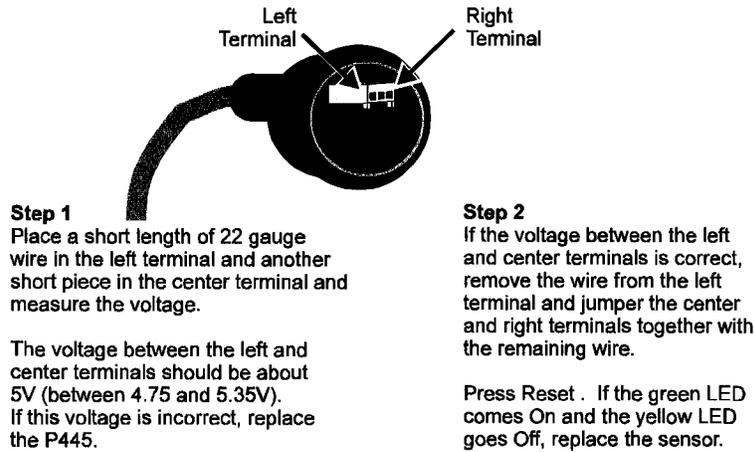

Figure 7: Troubleshooting Using the Cable Terminals
<ul style="list-style-type: none"> <li>• If the system does not reach sufficient oil pressure by the end of the time delay, check the compressor and system for problems.</li> <li>• If the system does reach sufficient oil pressure, disconnect the sensor cable at the sensor, connect a voltmeter to the left and center pins of the sensor cable via two short pieces of 22-gauge wire (See Figure 7). Press the RESET button.               <ul style="list-style-type: none"> <li>- If the voltage between these terminals is not approximately 5V (between 4.75 and 5.35V), test the sensor cable for continuity. Replace the cable and repeat this step if the cable is faulty.</li> <li>- If the cable is OK and the voltage is still insufficient, replace the control.</li> <li>- If the control and cable are OK, remove the voltmeter and use a single piece of 22-gauge wire between the center and right pins of the sensor cable (See Figure 7). Press the RESET button. If the green LED comes ON and the yellow LED goes OFF, replace the sensor. Otherwise, replace the control.</li> </ul> </li> </ul>
2. Follow the procedure described Figure 7 for troubleshooting the control and sensor.